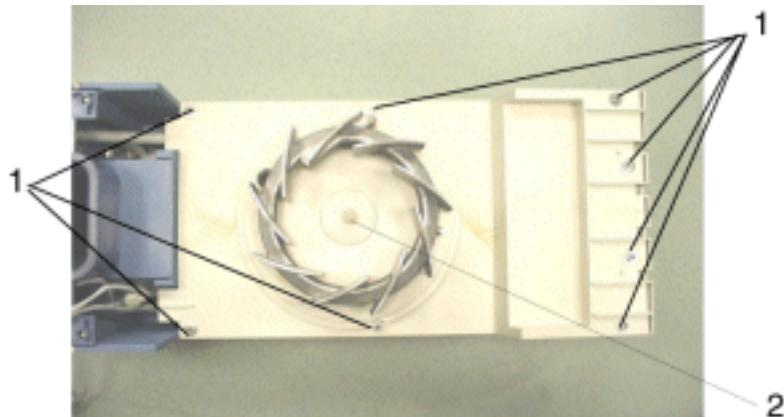

Fig. 148 Front view of the air heater
6. Carefully remove rubber sleeve (2) from shaft of fan motor, see Fig. 148.
7. Remove screws and washers (1), see Fig. 148.